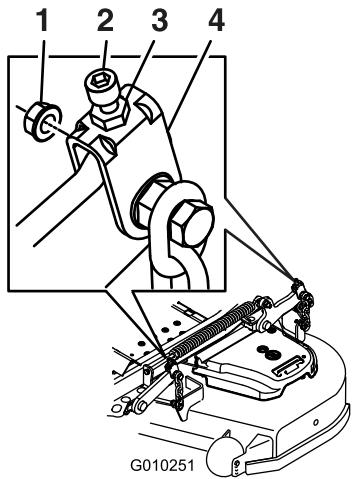

Figure 89
Note: Fine tune the screw adjuster by turning it to get 7.6 mm (3 inch) height (see Figure 89).
- Fine tune the screw adjuster by turning it to get 8.3 mm (3 1/4 inches) height (Figure 89).